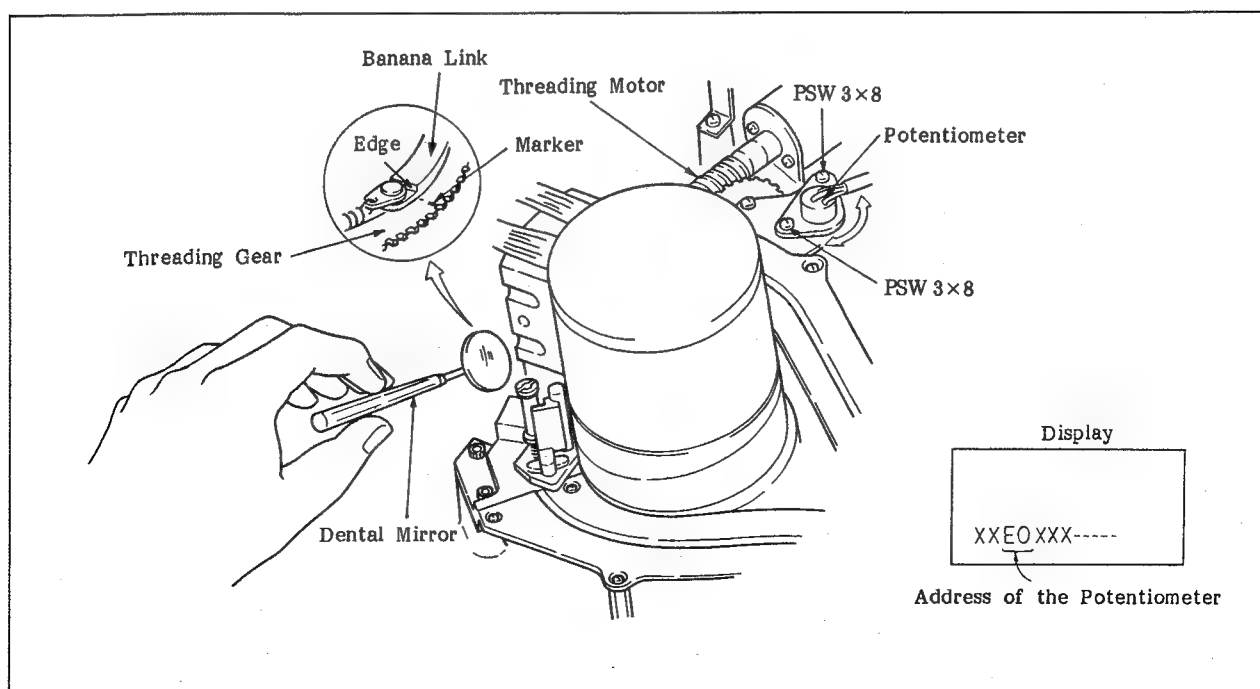

Fig. 6-63. Adjustment of the Address of the Potentiometer in Threading Condition
- Press the **F3** (C), **4**, **SET**, **F6** (F), **2**, **SET**, and **<** keys on the control panel in that order to set the machine in threading condition without loading a cassette tape.
- Place the dental mirror in a position where the threading gear and the banana link can be observed, as shown in Figure 6-63.
- Check that the two-digit number (address of the potentiometer) shown on the display is "E0 + 1", as shown in Figure 6-63. If it is not satisfied, loosen the two screws (PSW 3 x 8) that hold the potentiometer, and then adjust it by rotating the potentiometer. Tighten the two screws firmly after adjustment.
- b. Press the **F3** (C), **4**, **SET**, **F6** (F), **2**, **SET**, and **>** keys on the control panel in that order to set the machine in unthreading condition.
- c. Check that pin S is in contact with pin T as shown in Figure 6-63. If it is not, rotate the threading motor manually so that pin S becomes in contact with pin T.